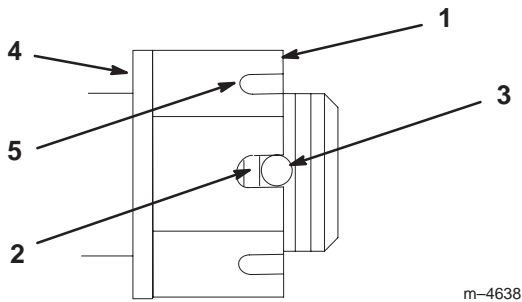

Figure 52
3. Torque the slotted nut to 125 ft–lb (170 N·m) (Fig. 52).
4. Check the distance from the bottom of the slot in the nut to the inside edge of the hole. Two threads or less should be showing (Fig. 52).
5. If more than two threads are showing, remove the nut and install a washer between the hub and nut (Fig. 52).
6. Torque the slotted nut to 125 ft–lb (170 N·m) (Fig. 52).
7. Tighten the nut until the next set of slots line up with the hole in the shaft (Fig. 52).